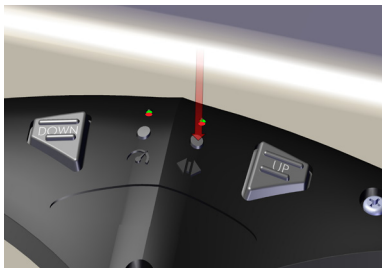

Figure 2
1. With dual Power-Pole shallow water anchors installed, the foot switch can also be used to toggle between independent or simultaneous control of the anchors. Depressing and releasing the "directional" button on the foot switch will toggle through the three settings (port side only, starboard side only, or simultaneous control). (See Figure 2, 3, 4 and 5)